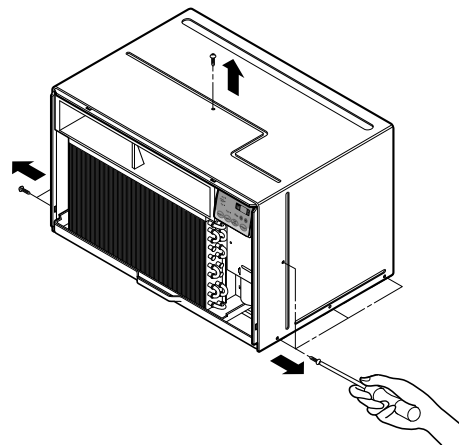

FIG. 25
1. After disassembling the FRONT GRILLE, remove the 9 screws which fasten the cabinet at the both sides and the top. (See Fig. 25)